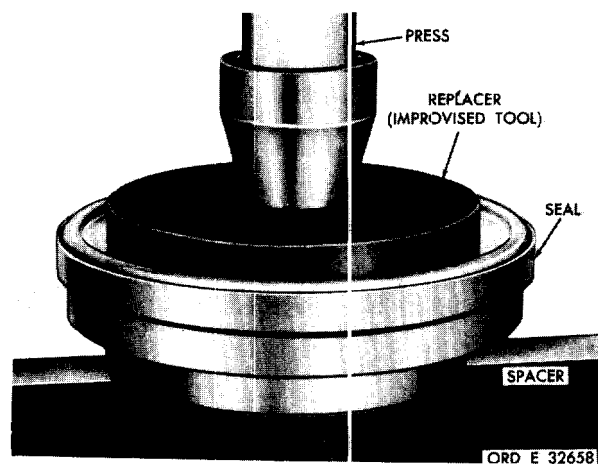

Figure 239. Installing seal onto output shaft spacer
(2) Using an oil seal replacer and press, install the seal onto the output shaft spacer (fig. 239).